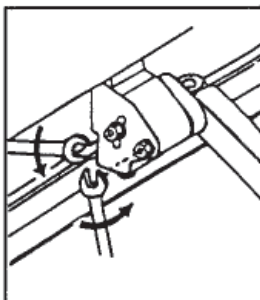
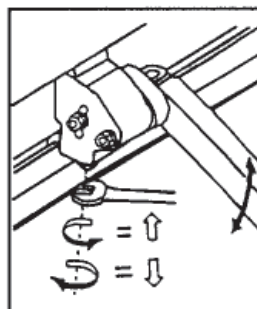
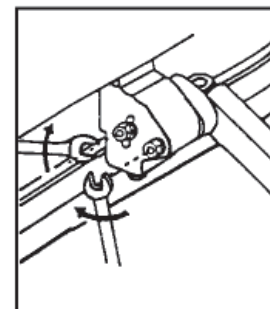

Figure 2a
Figure 2b
Figure 2c
The awning comes factory pre-set with a pitch angle of approximately 20 degrees. If it is desired to increase the angle, loosen the (2) lock nuts located on the outside upper joint of each arm using a 3/4” or 19mm wrench. See Fig. 2a. Adjust the arms DOWNWARD by rotating the bolt head at the bottom of the arm connection in a CLOCKWISE direction (looking from the bottom up). See Fig. 2b. Likewise, rotating the bolt in a COUNTER CLOCKWISE direction will RAISE the arm. After all arms are adjusted to the desired height, re-tighten lock nuts on the side of each arm. See Fig. 2c